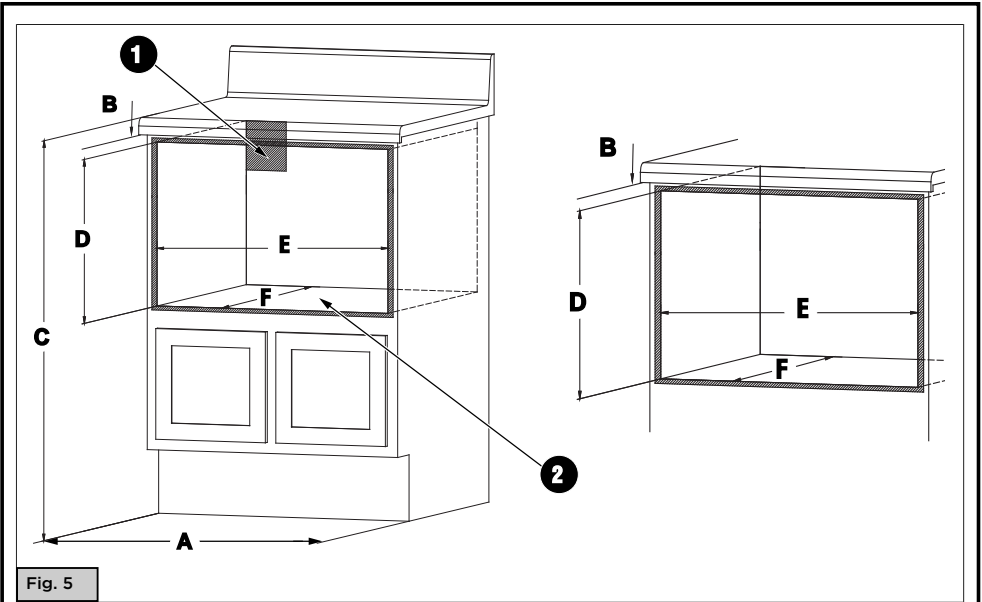

Fig. 5
- Dimensions that are shown in Fig. 5 must be used. Given dimensions provide minimum clearance. Locate electrical outlet in the shaded area in the upper left-hand corner of the cutout. Fig. 5